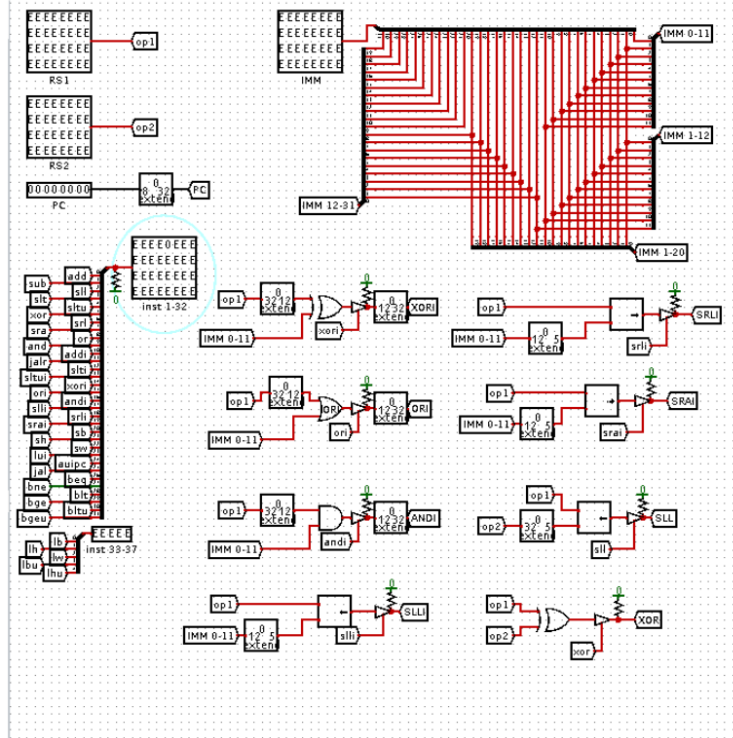

Figure 6: ALU: Part 1
An arithmetic-logic unit (ALU) (fig 6,7 and 8) is the part of a computer processor (CPU) that carries out arithmetic and logic operations on the operands in computer instruction words. In some processors, the ALU is divided into two units, an arithmetic unit (AU) and a logic unit (LU).